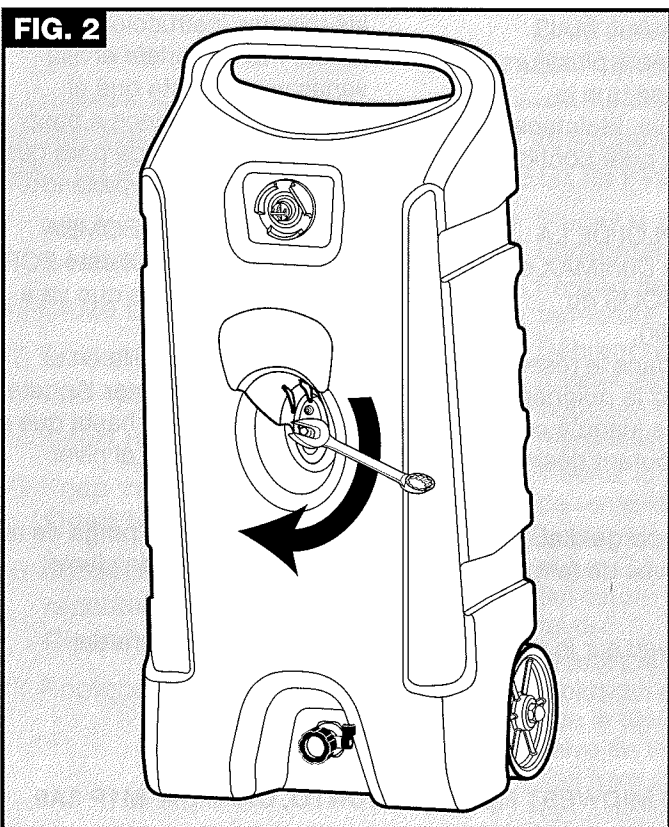

FIG. 4
- #1 Connect hose assembly (as per Fig. 4).